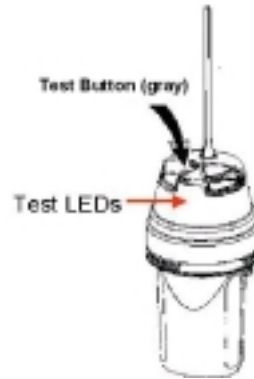

Figure 5 – **Self-Test Procedure**
- Locate the gray button on top of the dome and press it until a yellow LED lights up. Remove your finger from the button (Figure 5)